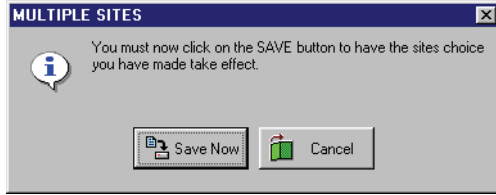

Figure 8-3: Save Sites Choice Window
4. Click on the  button. A Save window appears (see Figure 8-3 on page 4 of this section). The conversion to Sites mode will not actually be made until it is saved into the program databases.